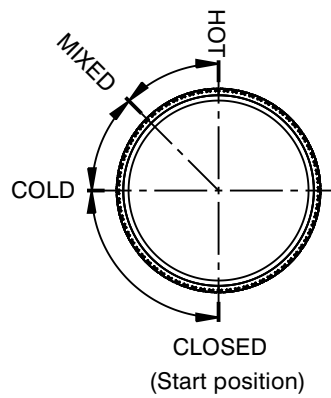

Fig. 2
- * This mixer is fitted with a 'Progressive' cartridge. To operate the cartridge, the handle is rotated clockwise (Fig.2). The first 90° of handle rotation will only select cold water, avoiding unnecessary use of hot water. Further rotation of the handle will deliver a mixture of hot and cold. When the handle is rotated fully clockwise, only hot water will flow.